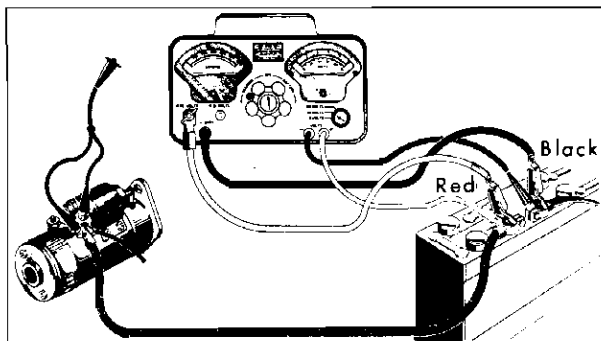

Fig. 11-6 Amperage Draw Test
3. Connect test leads as shown in Fig. 11-6.